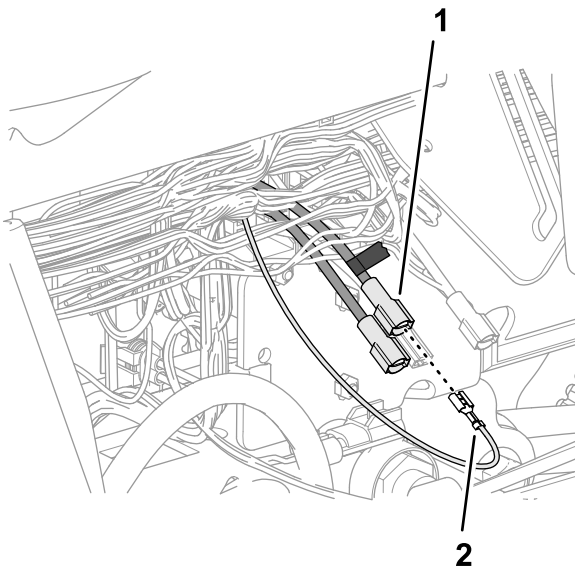

Figure 190
5. Connect the blade connector that you marked in step 4 into the socket connector at the end of the pink wire 51 mm (2 inches) of the kit wire harness (Figure 190).